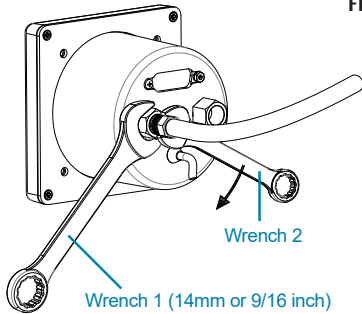

Figure 7
**IMPORTANT:** Use 2 wrenches to screw the NPT male fitting into the NPT female fitting. Use the first wrench (14mm or 9/16 inch) to hold the female fitting on its place, and the second key to screw the male fitting into the female one. Screw carefully until the fittings get tight but avoid overtightening (see Figure 7).